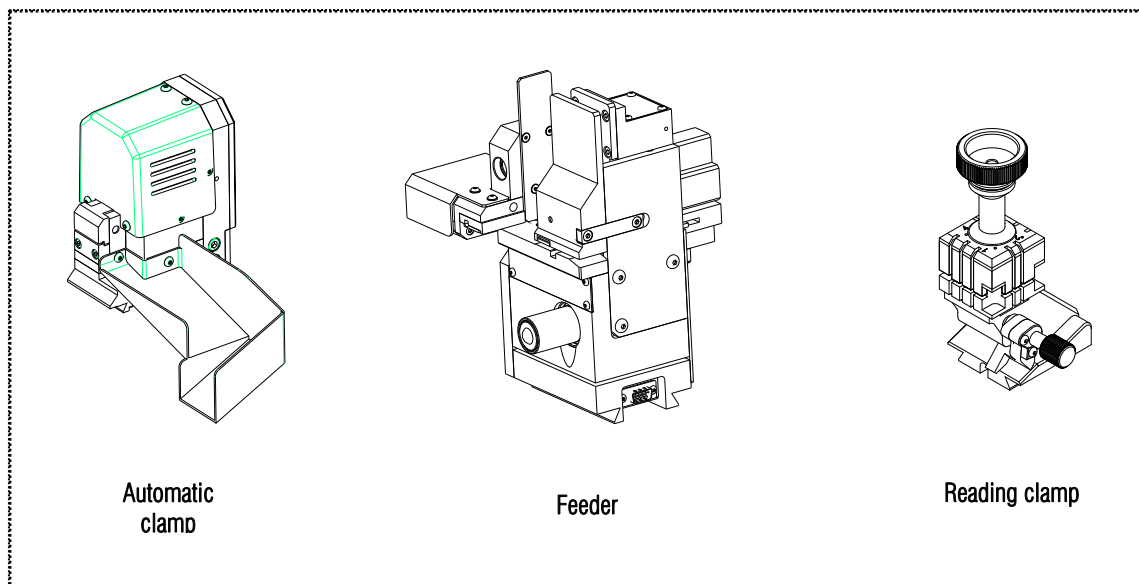

Fig.12
2. AVANTCODE (KEY FEEDER): Automatic and loading clamp and reading clamp (Fig.12)